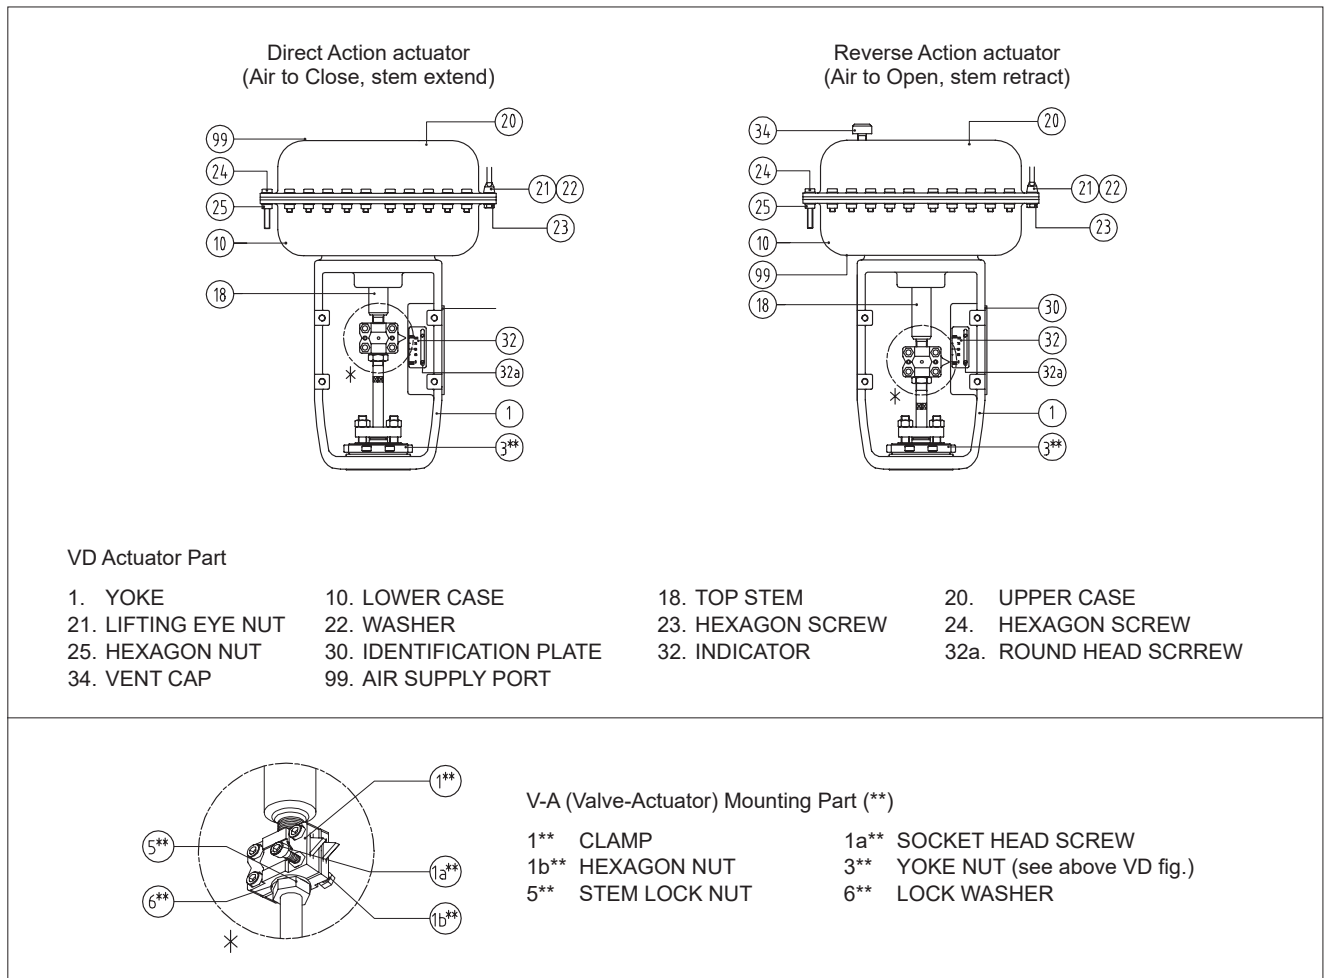

Fig. 13 VD Actuator
A. Actuator removal for Reverse <air to open, stem retract> actuator (Fig. 13)